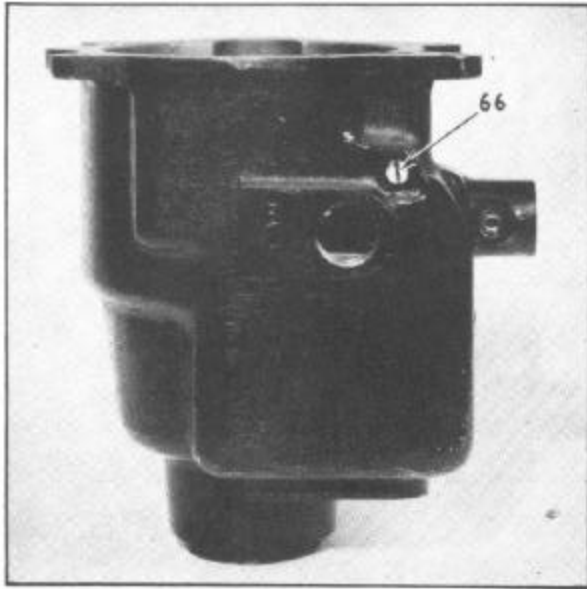

Figure 30--Removing Poppet Spring Seat
12. Remove shifter head poppet spring seat (66), Figure 30, spring and spring ball.